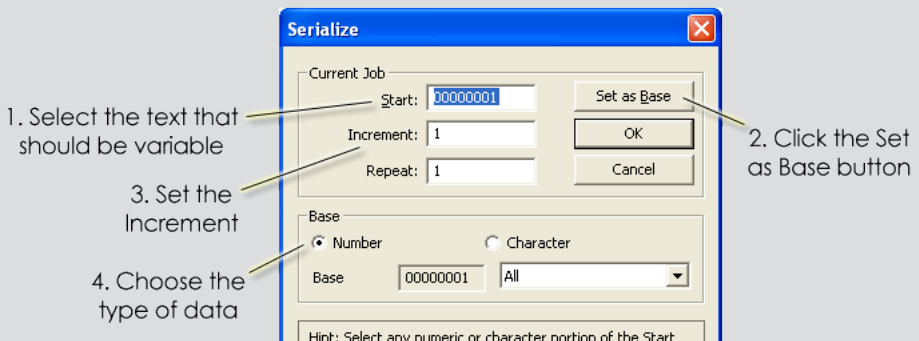

Fig. 65 - The **Serialize** dialog is used to choose the starting text that will be variable, and the amount that the value should increment for each badge.
8. The **Serialize** dialog (Fig. 65) will provide controls for setting the initial starting value and increments for the series.